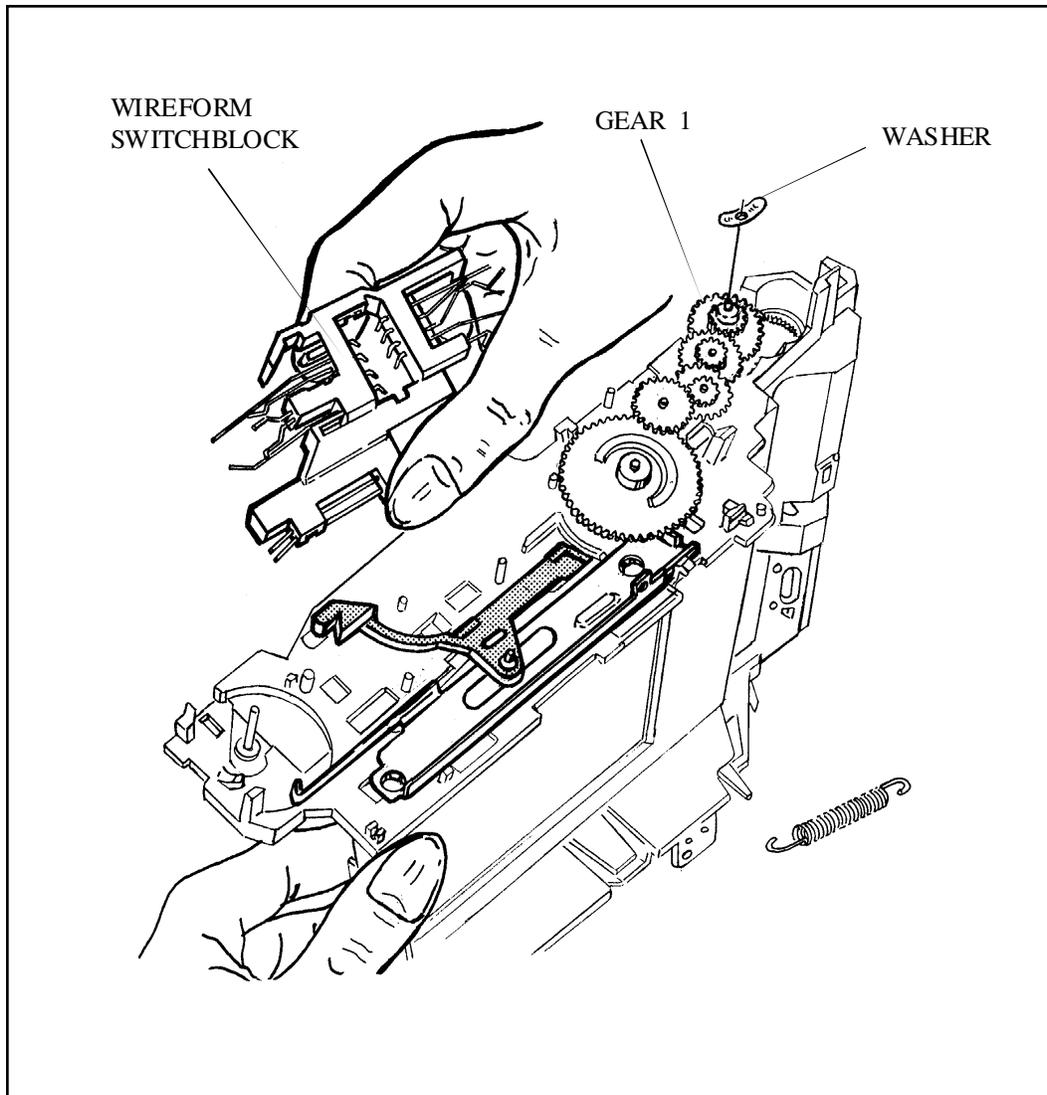

Figure 3-47. Washer and Gear removal from Gear Drive
- b. Remove Washer from Gear #1 (Figure 3-47).
- f. Remove, in this order, Gear #4, Gear #3, Gear #2, Gear #1 and Timing Gear (Figure 3-47).